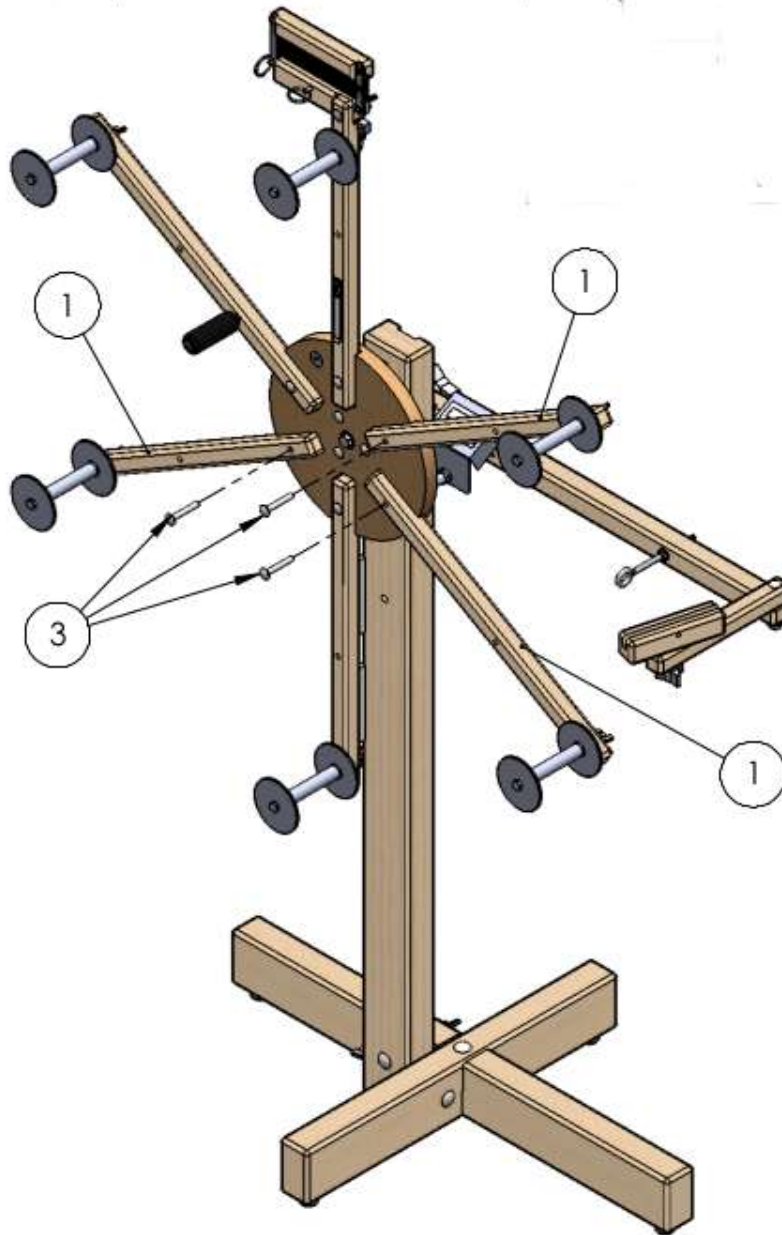

Figure 13 – Warping Wheel with Spokes
5) Mount the remaining 3 spokes on the drum assembly. (Figure 13)